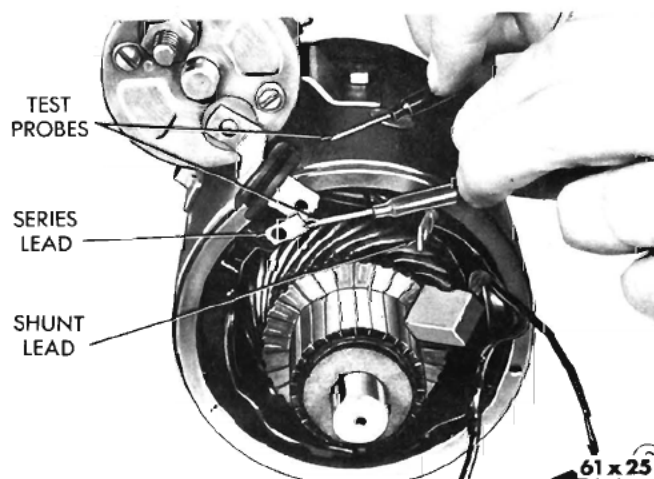

Fig. 10—Testing Series Coil for a Ground
(4) Remove the ground brushes attaching screw, and raise the brushes with terminal and shunt wire up and away from the field frame.
(5) Touch one probe of the test lamp to the series field coil lead and the other probe to the field frame (Fig. 10). Lamp should not light.